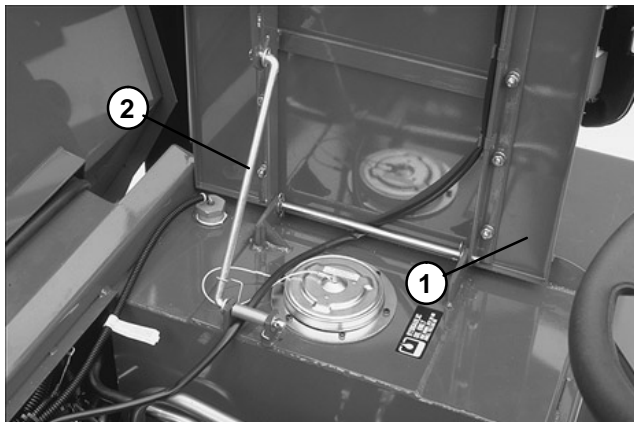

Figure 6
2. Raise seat and support it in upright position with seat support rod (Fig. 6).